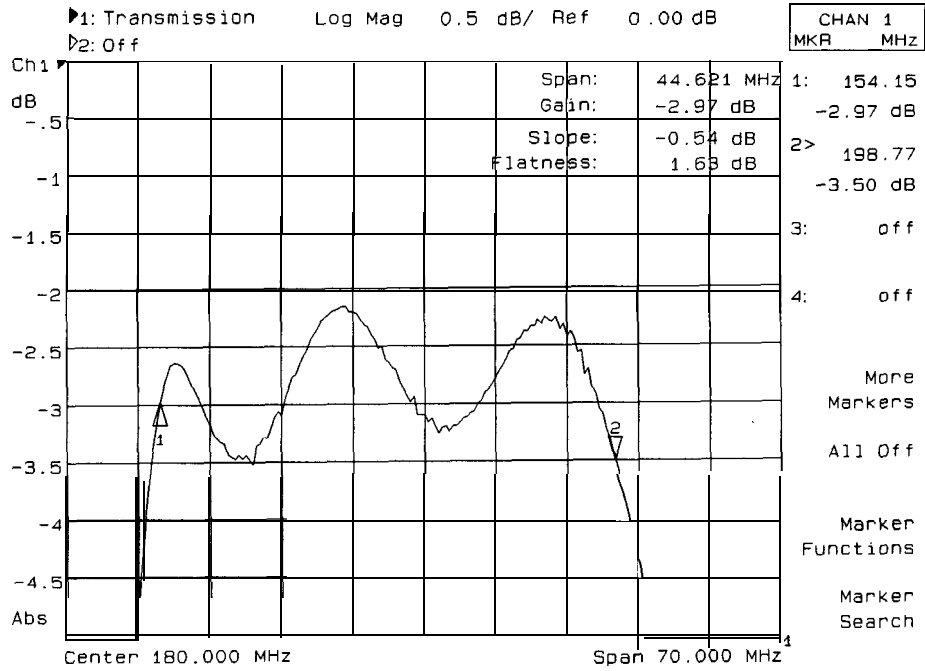

Figure 4.13. Marker Flatness Function
3. Figure 4-13 shows a defined trace segment. Notice the marker readout in the upper right corner of the display.